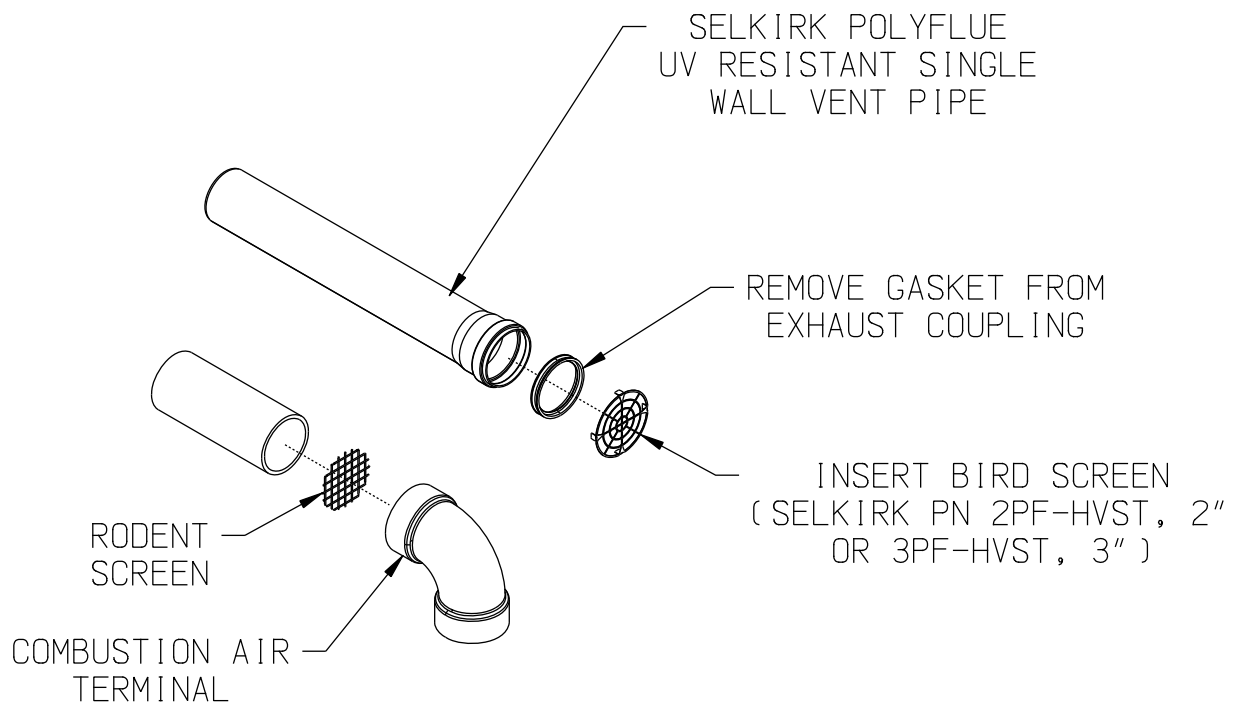

FIGURE 7.42: INSTALLATION OF SELKIRK POLYFLUE UV RESISTANT SINGLE WALL HORIZONTAL TERMINAL
- a. See Figure 7.42 for proper orientation of twin pipe horizontal terminals. Outer edge of exhaust coupling must be 10" or less from the wall surface. (Figure 7.9)